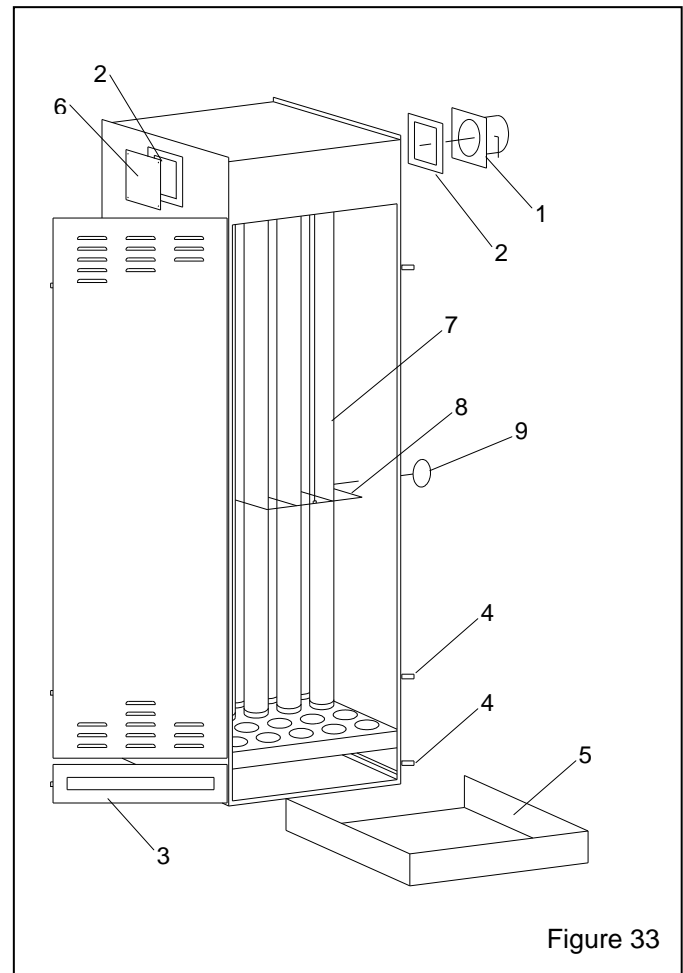

Figure 33
9.12 Dry Filter Dust Collector, Figure 33